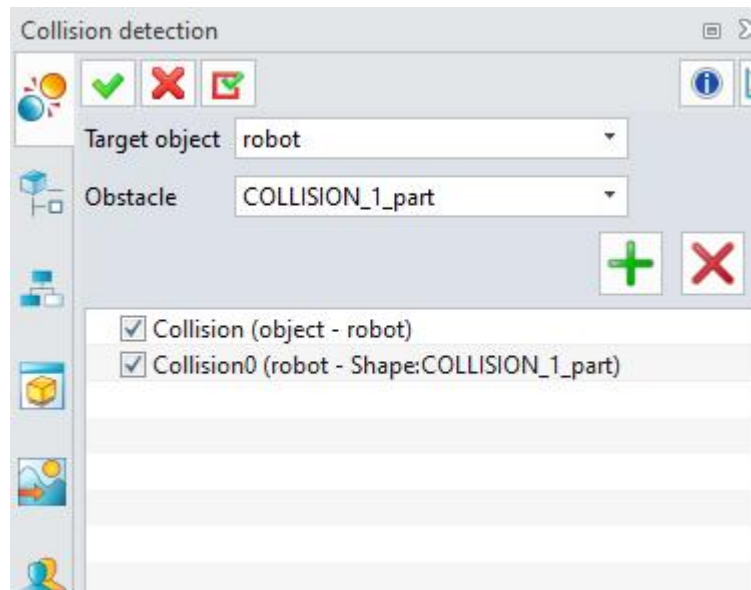

Figure 11-15: Collision detection
- Click the “checkmark” to complete the creation. (Figure 11-15)